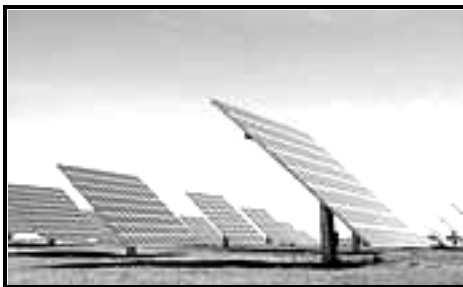
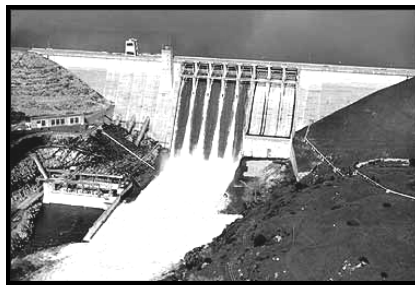

FIGURE 3A
FIGURE 3B
- 3.1 FIGURE 3A and FIGURE 3B below show alternative methods of generating electricity. Study the photographs and answer the questions that follow.
- 3.1.1 Identify the primary source for generating electricity in FIGURE 3A. (1)
- 3.1.2 Identify the primary source for generating electricity in FIGURE 3B. (1)
- 3.1.4 Explain TWO advantages of generating electricity as shown in FIGURE 3A. (2)